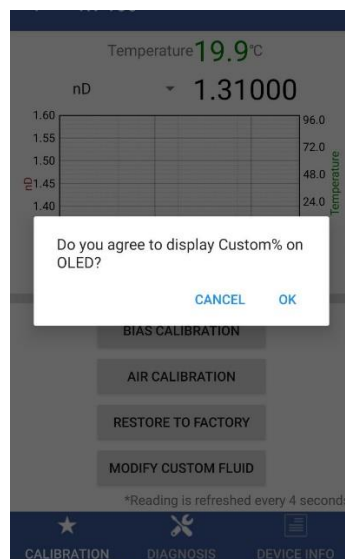

Figure 20.
4. If the connection is successful, the Prism RT-50 and its Serial Number (S/N) will be displayed (Figure 20).